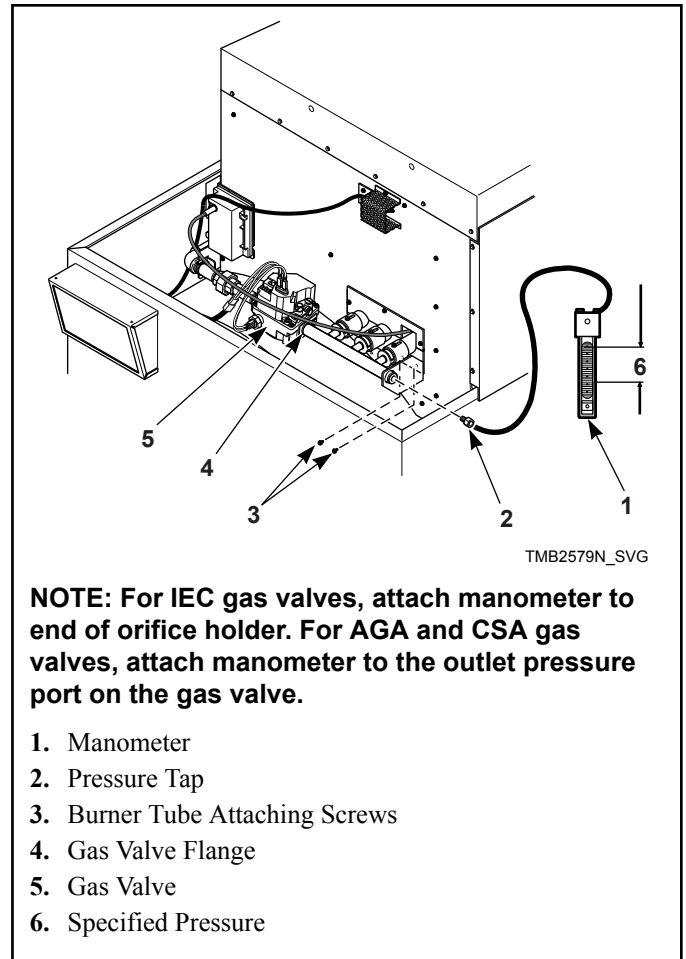

Figure 9
1. Check gas burner orifice (manifold) pressure as follows. Refer to *Figure 9*.
4. Start tumble dryer and note pressure once flame is burning. Remove regulator cap and adjust regulator screw until the burner orifice pressure per applicable table is achieved. Replace regulator cap. Refer to *Figure 9*.